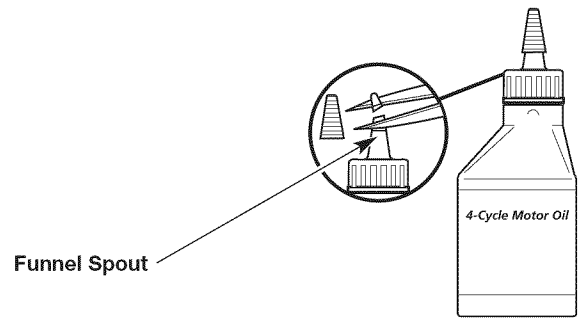

Fig. 4
2. Remove the cap from the oil bottle. Cut the tip off the funnel spout (Fig. 4).